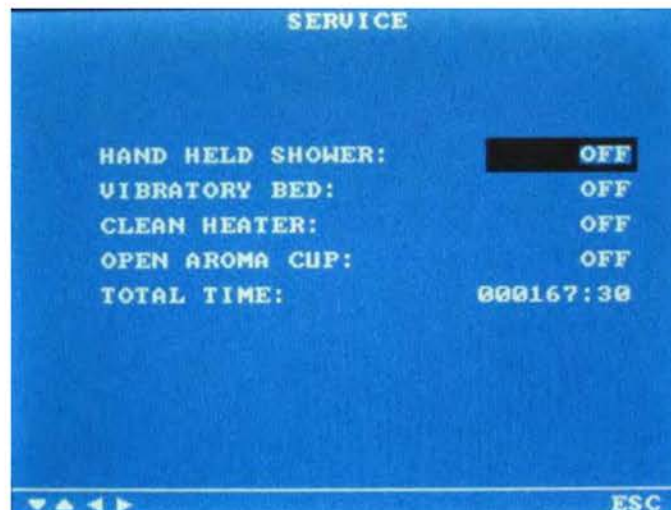

Figure 4
- Let the 5 connecting nuts loose and remove the hood by pulling it to the showed direction (Figure 4 below).